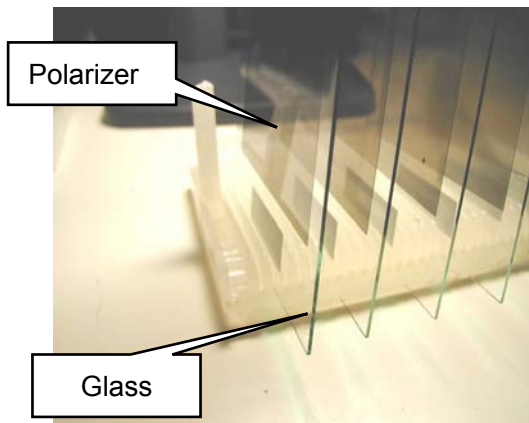

Fig.7
- b. When the samples are put into the test, put them upright so that the glasses keep spaces between them each other. (Fig.7)